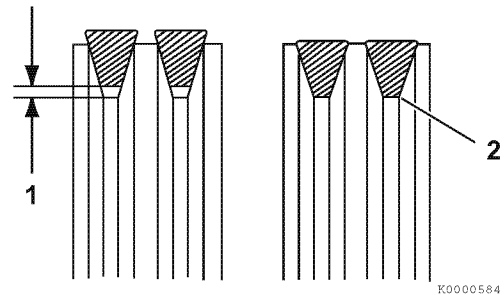

Figure 5-3
3. Tighten the V-belt to the proper tension. There must be clearance (**Figure 5-3, (1)**) between the V-belt and the bottom of the pulley groove. If there is no clearance (**Figure 5-3, (2)**) between the V-belt and the bottom of the pulley groove, replace the V-belt.
5. Inspect the condition of the used V-belt. There must be clearance (**Figure 5-3, (1)**) between the V-belt and the bottom of the pulley groove. If there is no clearance (**Figure 5-3, (2)**) between the V-belt and the bottom of the pulley groove, replace the V-belt.